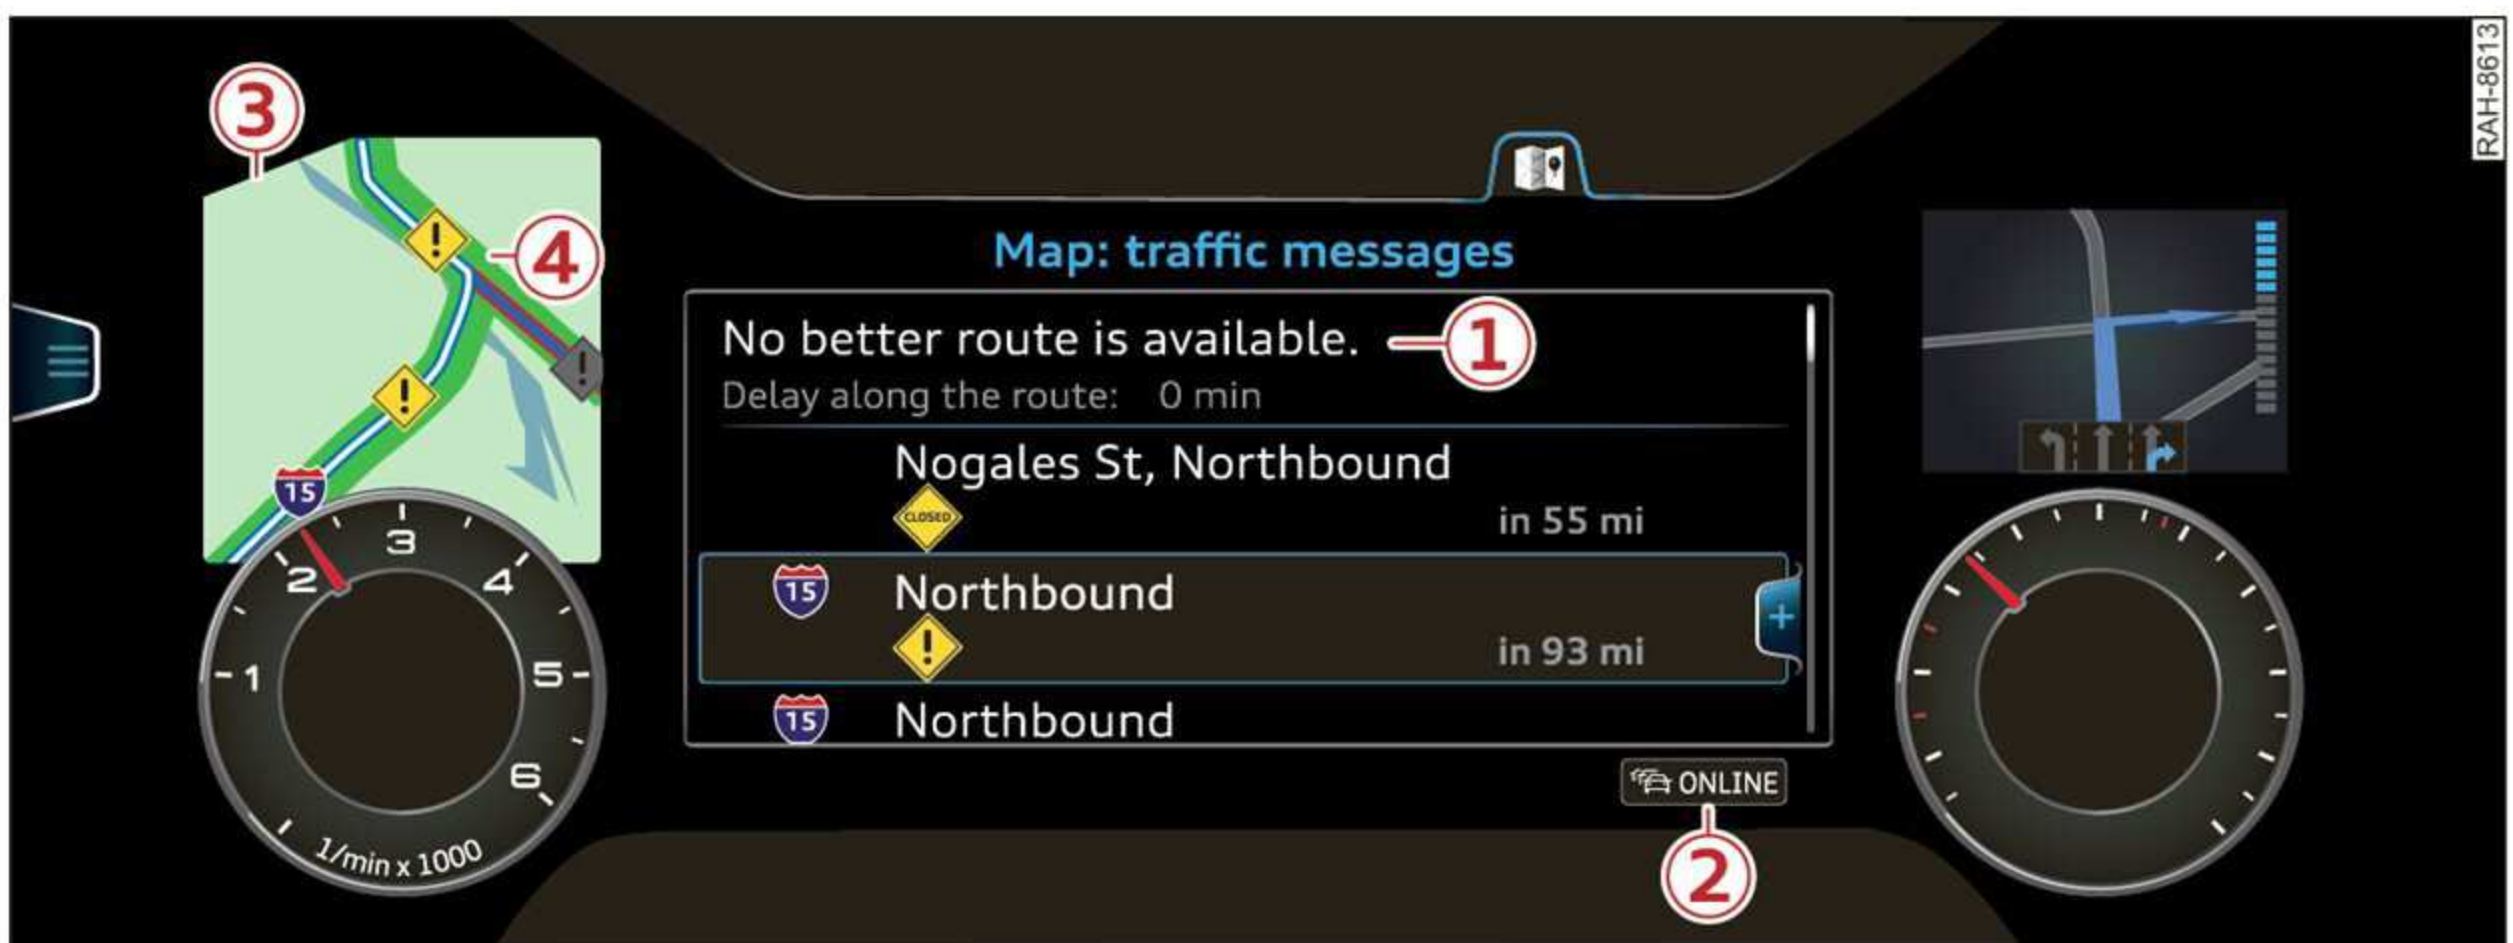

Fig. 126 Example: online traffic information display* without better route
Reception of traffic information is indicated by the **TMC** or **ONLINE** symbol on the map ⇒ *page 144, fig. 126*.
Depending on vehicle equipment, the following information may be shown in the traffic information overview ⇒ fig. 126:
- **Opening the detailed view of a traffic message:** if you select an entry from the list, the traffic information will be shown as a map preview  ⇒ *page 144, fig. 126*. Select and con-